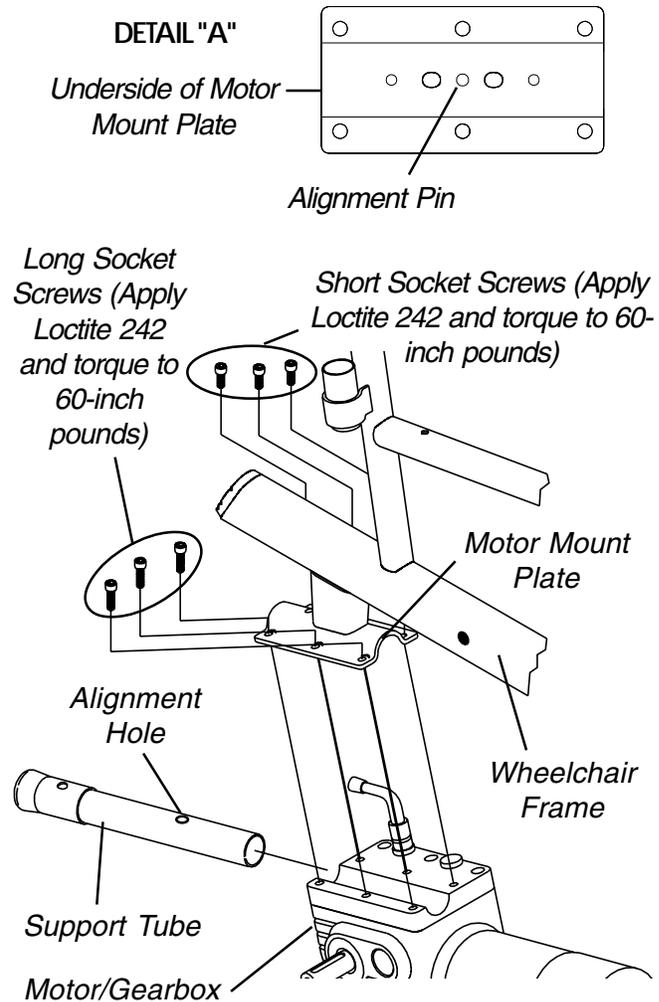

FIGURE 12 - REPLACING MOTOR/GEARBOX
**REPLACING MOTOR/GEARBOX (FIGURE 12)**
4. Remove the six (6) socket screws that secure the motor/gearbox and support tube to the wheelchair frame.
*NOTE: The alignment pin is the longest of the three (3) pins and is located in the center of the wheelchair frame motor mount plate. Refer to DETAIL "A" in FIGURE 12.*